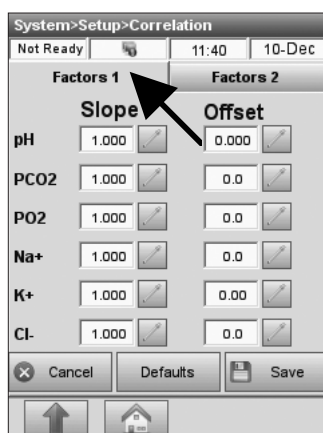

Fig. 3-48 Correlation Factors 1
3. Select the numbers you want to change by pressing  (Fig. 3-48). Enter the new numbers.